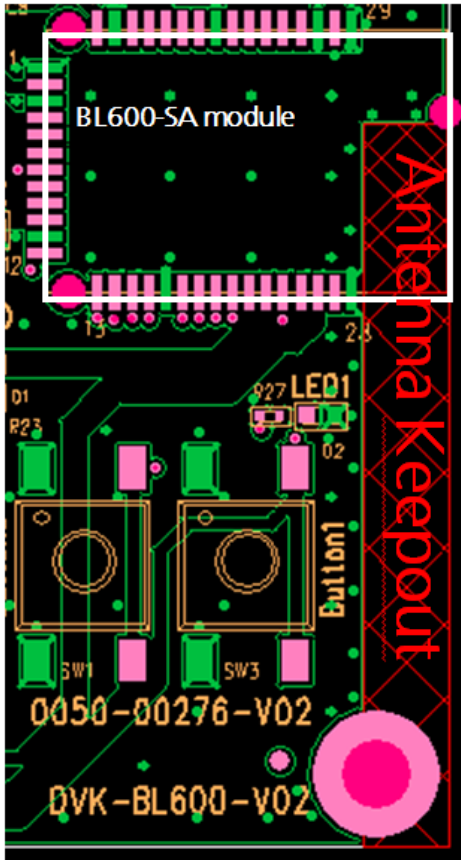

Figure 11: Antenna keep-out area (shown in red), corner of the BL600 development board for BL600-SA module.
- The BL600 development board has the BL600-SA module on the edge of the board (not in the corner). The antenna keep-out area is defined by the BL600 development board which was used for module development and antenna performance evaluation is shown in Figure 11, where the antenna keep-out area is ~4.2 mm wide, 34.2 mm long; with PCB dielectric (no copper) height 1.539 mm sitting under the BL600-SA antenna.
- The antenna-keep-out defined in Error! Reference source not found. applies when the BL600-SA is placed in the corner of the host PCB. When BL600-SA cannot be placed as such, it must be placed on the edge of the host PCB and the antenna keep out must be observed. An example is shown in Figure 11.
- Follow the 50-Ohms trace design used on the BL600 development board (PCB stack-up in Figure 11). If this PCB-stack-up is not practical on customer design then design 50-Ohms for differing PCB stack-up.